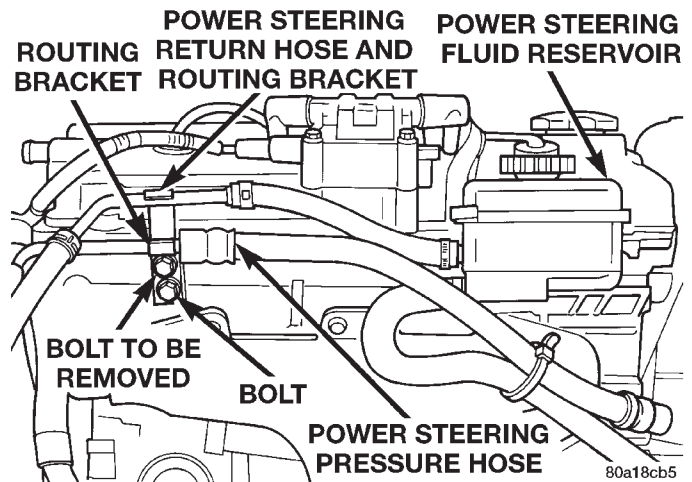
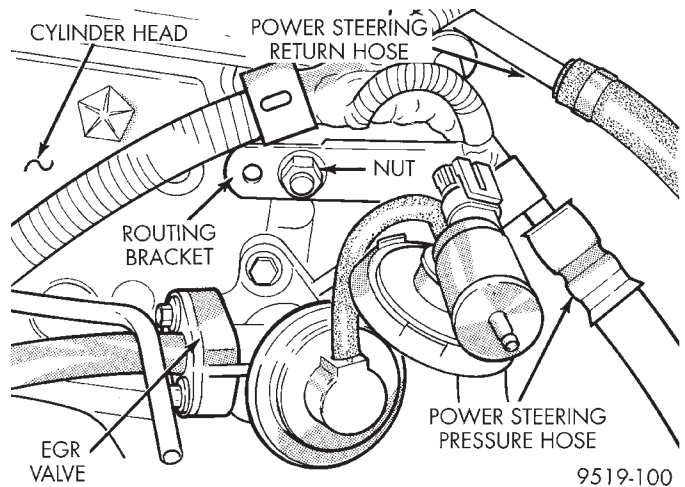
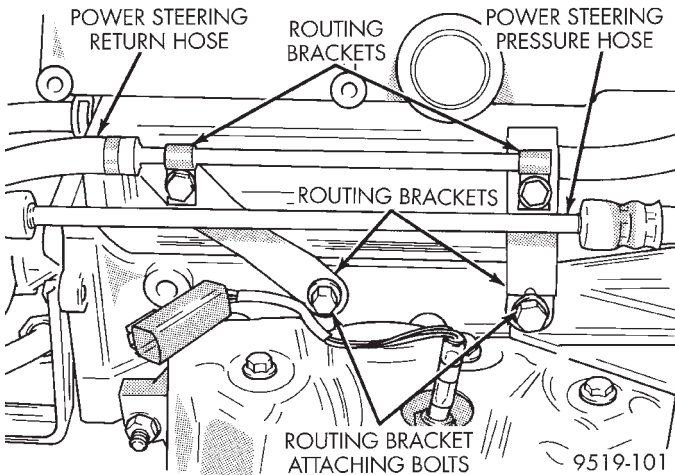

Fig. 10 2.4 Liter Power Steering Hose Routing
Fig. 11 Power Steering Hose Bracket Attachment To Cylinder Head
Fig. 12 2.5 Liter Power Steering Hose Routing
(4) **If the vehicle is equipped with a 2.4 liter engine,** remove the power steering pressure hose routing bracket from the power steering return hose bracket on rear of engine (Fig. 10). Then remove the nut attaching the power steering pressure hose routing bracket to the stud on the side of cylinder head (Fig. 11).
(5) **If vehicle is equipped with a 2.5 liter engine,** remove the 2 routing brackets (Fig. 12) attaching the power steering return hose to the power steering pressure hose routing brackets. Then remove the 2 bolts attaching the power steering pressure hose routing brackets to the cylinder head (Fig. 12).
(6) **If the vehicle is equipped with a 2.4 liter engine,** remove the tie-strap (Fig. 10) holding the
power steering pressure hose routing brackets and attaching bolts on engine (Fig. 12), (Fig. 11) and (Fig. 10).
(12) Install the tie-strap (Fig. 10) holding the power steering fluid supply hose to the power steering pressure hose.
(13) Lower vehicle.
(14) Start the engine and let run for a few seconds. then turn the engine off.
(15) Add fluid if necessary. Repeat the above procedure until the fluid level remains constant after running the engine.
(16) Raise front wheels of vehicle off the ground.
(17) Start the engine. Slowly turn the steering wheel right and left, lightly contacting the wheel stops. Then turn the engine off.
(18) Add power steering fluid if necessary.
(19) Lower the vehicle and turn the steering wheel slowly from lock to lock.
(20) Stop the engine. Check the fluid level and refill as required.
(21) If the fluid is extremely foamy, allow the vehicle to stand a few minutes and repeat the above procedure.
(22) After hose is installed, check for leaks at all hose connections.